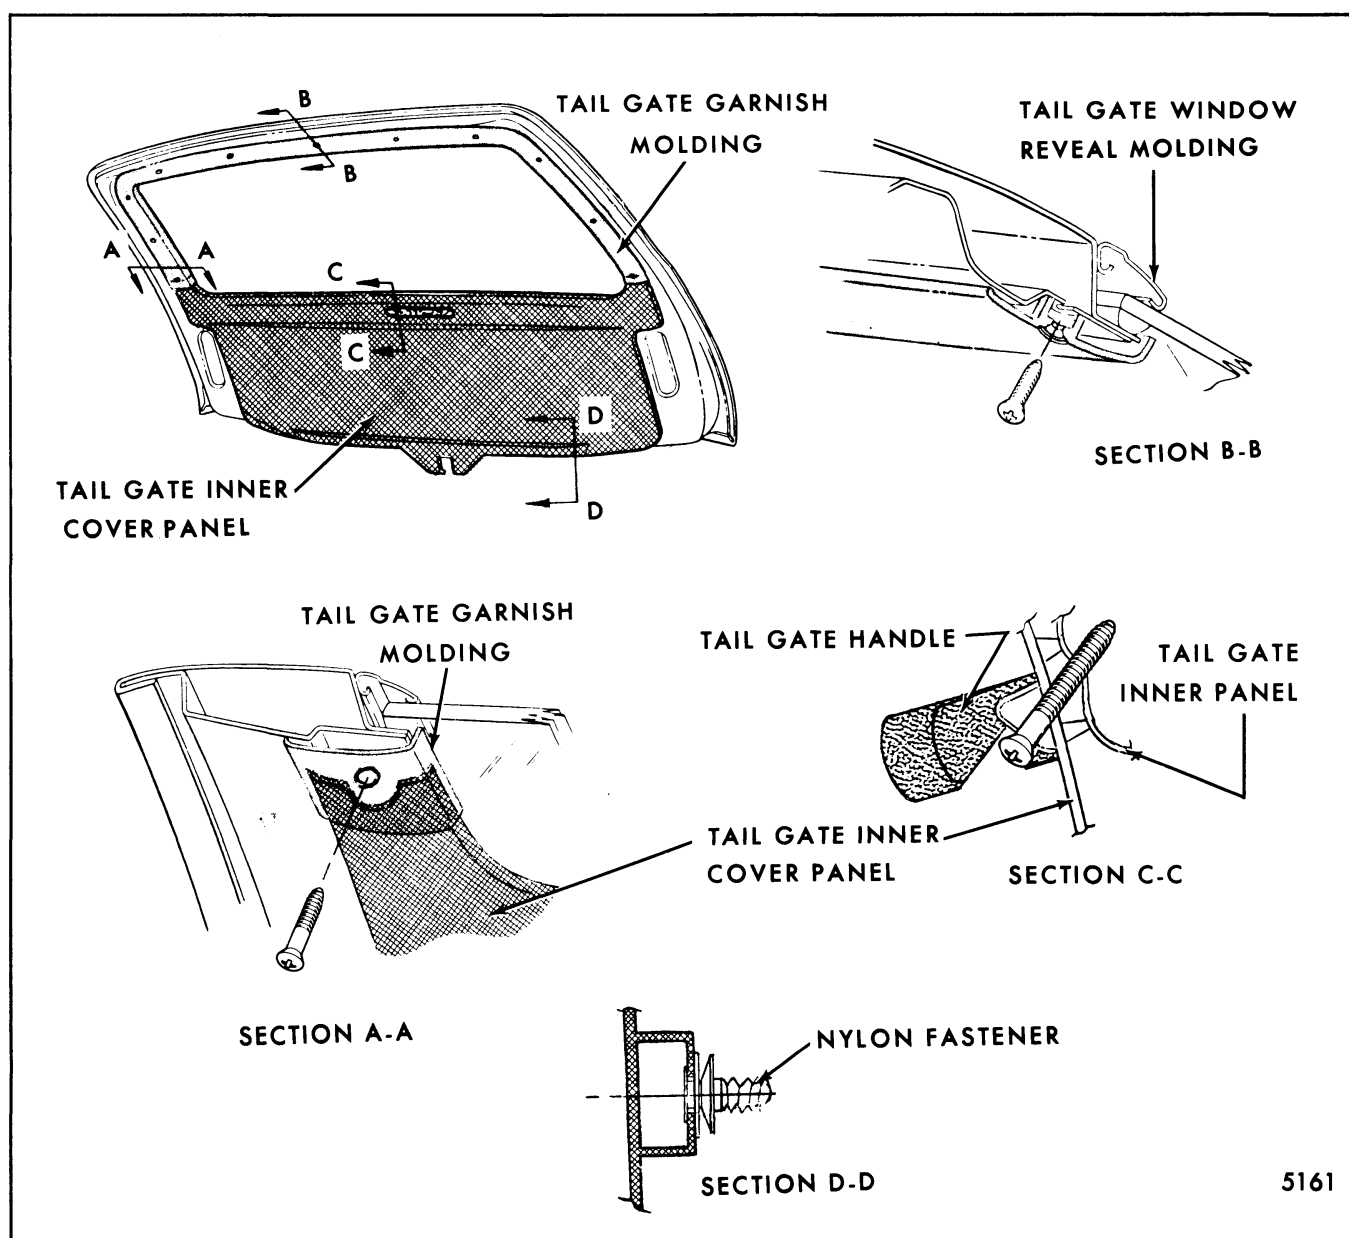

Fig. 7-57-Tail Gate Inner Cover Panel and Tail Gate Window Garnish Molding
A one piece plastic garnish molding is used around the tail gate window opening above the belt line (Fig. 7-57). It is secured to the tail gate inner panel with exposed screws. It is designed to conceal the tail gate window pinchweld and "finish" the area immediately adjacent to the glass.
The tail gate inner cover panel is used to conceal the lower tail gate window pinchweld flange and to finish the lower half of the tail gate inner panel. It is secured to the inner panel by a series of "push-on" fasteners and exposed screws. An inside pull handle is mounted at tail gate centerline just below the tail gate window opening (Fig. 7-57).
1. Remove screws securing inside pull handle to tail gate inner panel and remove handle (Section C-C, Fig. 7-57).
from inner panel along bottom edge of cover panel (Section D-D, Fig. 7-57).
3. Remove two inner cover panel screws from lock assembly tabs (Fig. 7-57).
4. Remove bolts (4) securing lock assembly to bottom of tail gate.